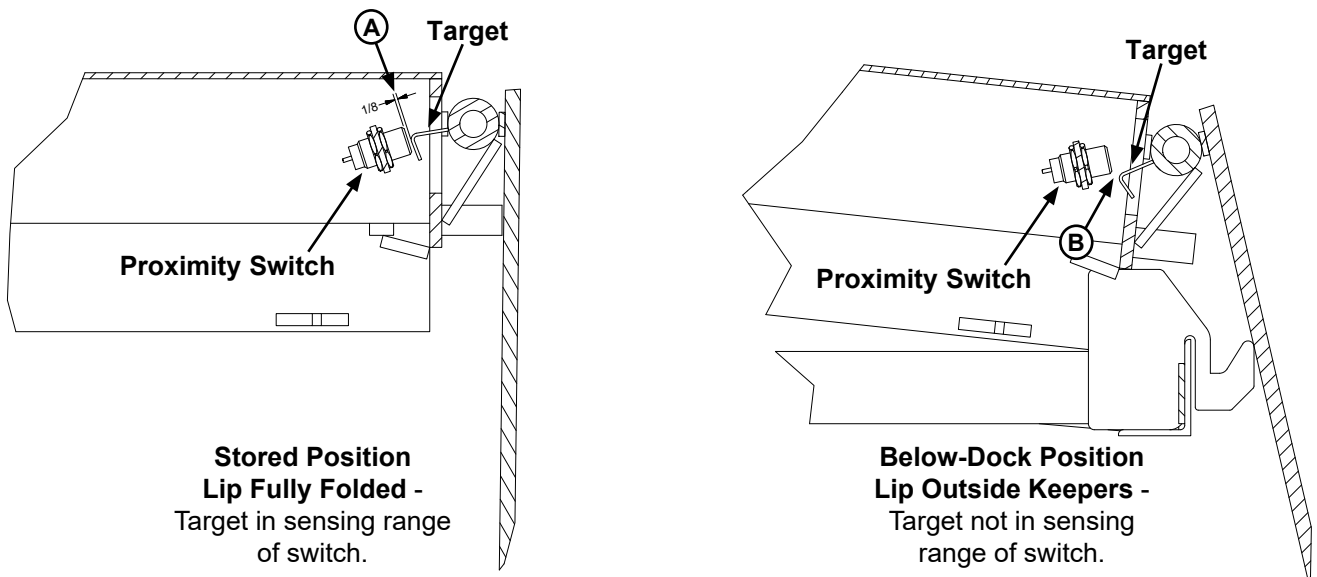

Figure 23
3. Press the RAISE button. The dock leveler should NOT raise. If the leveler did not raise, proceed with step 4. If the leveler did raise, decrease dimension (A), so that the target is in the sensing range of the switch. Typical factory setting for (A) is approximately 1/8". Make adjustments at switch until leveler does not raise when the vehicle restraint is not engaged on transport vehicle RIG bar. See Figure 23.
6. Press the RELEASE button. The vehicle restraint should NOT disengage from the transport vehicle RIG bar or test fixture. If the vehicle restraint did NOT disengage, proceed with Step 7. If the vehicle restraint DID disengage, move the switch farther from the target or bend the target to increase dimension (B) so that the target is not in the sensing range of the switch. Make adjustments at switch and/or target until vehicle restraint does not disengage transport vehicle. See Figure 23.